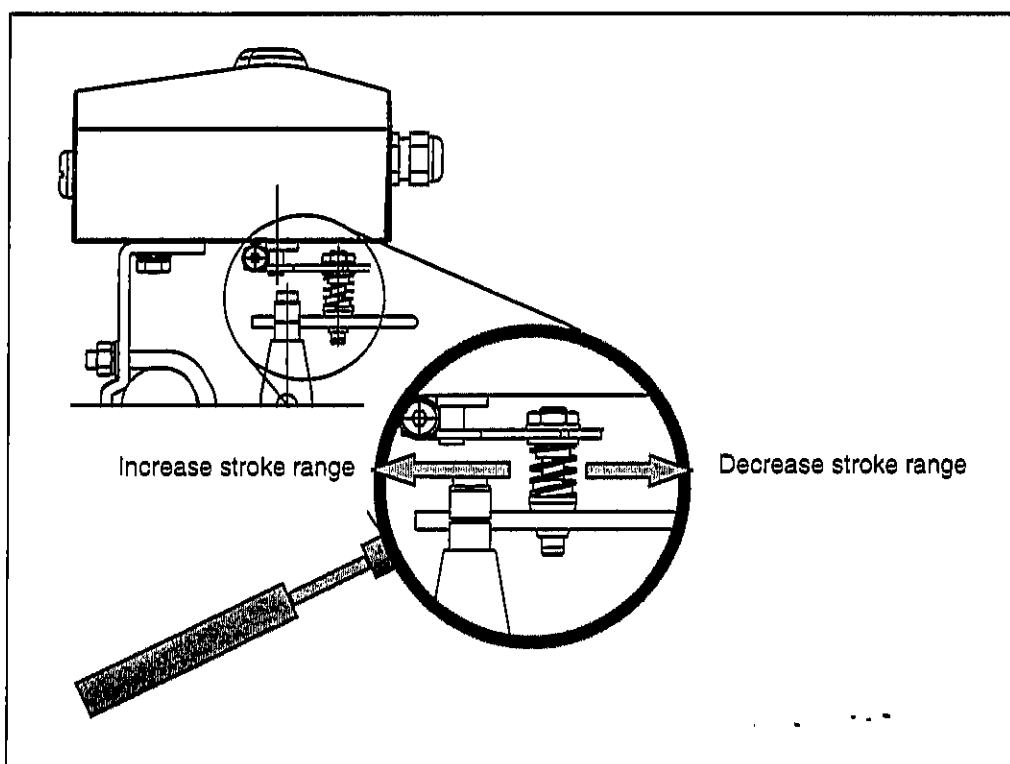

Fig. 14 Stroke adjustment
- Slip the spring (2) onto the bolt with the follower pin (1).
- Slip the plastic washer (3) onto the bolt and compress the spring with it.
- Insert the bolt with compressed spring into the oblong hole in the lever (4) and fasten it in the desired position using the plain washer (5) and nut (6) at the lever; the scale on the lever indicates the link point for the stroke range (see Fig. 14 on page 17).
- Slip the plain washer (8) onto the screw (7), insert the screw into the lever and counter with the nut (9).
By shifting the bolt with follower pin in the oblong bore hole of the lever you can change the stroke range (see Fig. 14). If the link point is shifted to the inside, the stroke range is increased; shifting to the outside decreases the range.